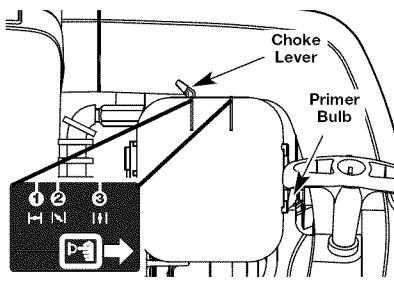
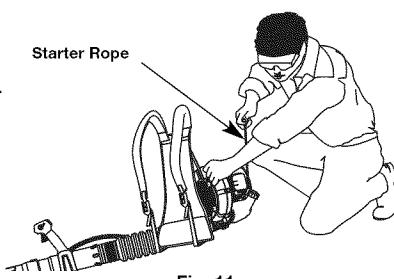

Fig. 10
Fig. 11
**WARNING:** Avoid accidental starting. Make sure you are in the starting position when pulling the starter rope (Fig. 11). To avoid serious injury, the operator and unit must be in a stable position while starting. To avoid serious personal injury, make sure that the blower tube is locked in place or firmly installed.
3. Slowly press and release the primer bulb **10** times. Some amount of fuel should be visible in the primer bulb (Fig. 10). If fuel cannot be seen in the bulb, press and release the bulb until fuel is visible.
4. Move the choke lever to **Position 1** (Fig. 10).
6. Crouch in the starting position (Fig. 11). Pull the starter rope **5** times in a controlled motion.
7. Move the choke lever to **Position 2** (Fig. 10).
10. While continuing to keep the throttle trigger in the **FAST** position, move the choke lever to **Position 3** and continue warming the unit for an additional 60 seconds (Fig. 10). The unit may be used during this time.
**IF...** the engine hesitates, return the choke lever to **Position 2** (Fig. 10) and continue the warm-up.
**IF...** the engine fails to start after two attempts, move the choke lever to **Position 3** (Fig. 10) and press down the cruise control. Pull the starter rope in a controlled motion **3-8** times. The engine should start. If not, repeat.
**IF WARM...** If the engine is already warm, start the unit with the choke lever in **Position 2** (Fig. 10). After the unit starts, move the choke lever to **Position 3** (Fig. 10).
- Slowly press and release the primer bulb 10 times. Some amount of fuel should be visible in the primer bulb (Fig. 10). If fuel cannot be seen in the bulb, press and release the bulb until fuel is visible.
- Move the choke lever to **Position 1** (Fig. 10).
- Crouch in the starting position (Fig. 11). Place the Plug-In Power Start or Power Bit Start into the back of the unit. Refer to the *Operation* section of the Plug-In Power Start or Power Bit Start operator's manual.
- Press and hold the **ON (I)** button of the Plug-in Power Start or Power Bit Start equipped drill for 2 seconds.
- Move the choke lever to **Position 2** (Fig. 10).
- Press and hold the **ON (I)** button of the Plug-in Power Start or Power Bit Start equipped drill in intervals no longer than 2 seconds each until the unit starts.
- While continuing to keep the throttle trigger in the FAST position, move the choke lever to **Position 3** and continue warming the unit for an additional 60 seconds (Fig. 10). The unit may be used during this time.
**IF...** the engine fails to start after two attempts, move the choke lever to **Position 3** (Fig. 10) and press down the cruise control. Then press and hold the Plug-In Power Start or drill **ON (I)** button in intervals no longer than 2 seconds each until the unit starts.